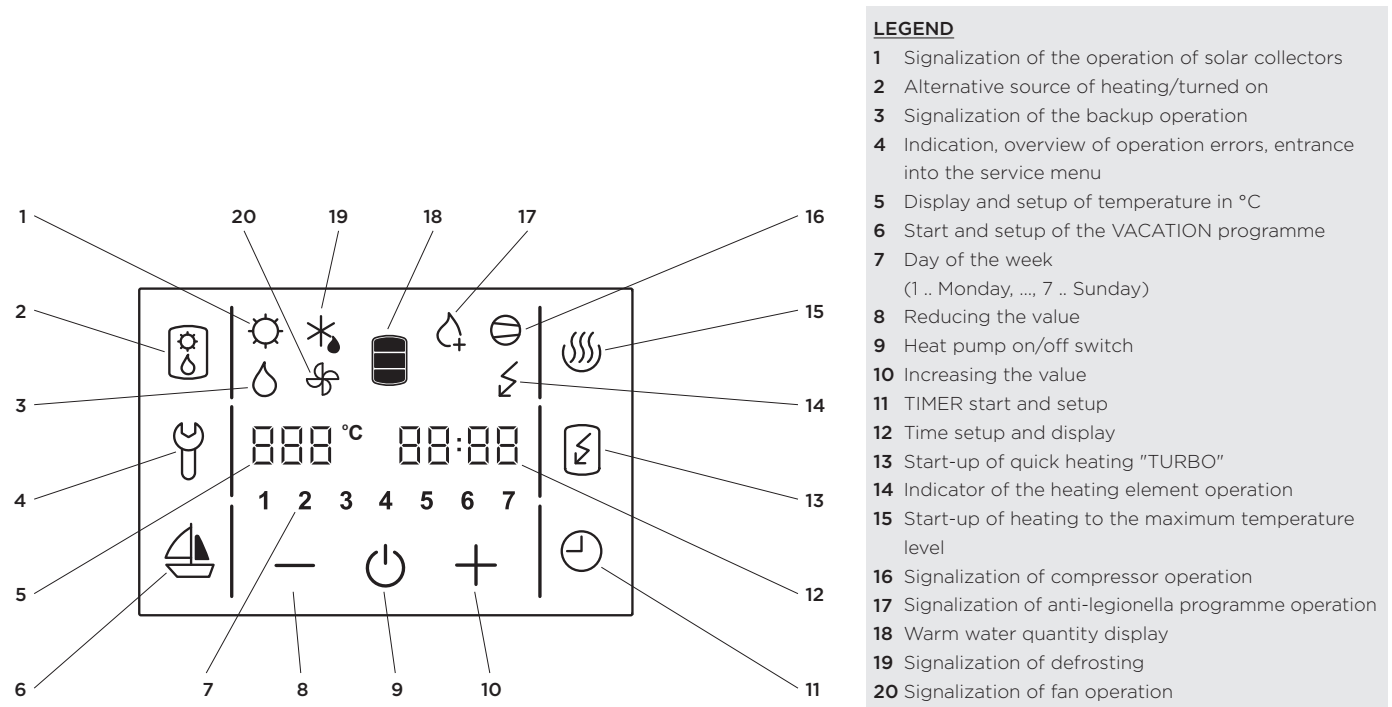

Figure 10: Operation display
The heat pump can be operated using an LCD touch screen (Fig. 10). If you press anywhere on the screen, the screen lights up. When the screen is lit up, the operation fields are active.
- By pressing field no. **4**, you can activate the maintenance mode (**Figure 10**).